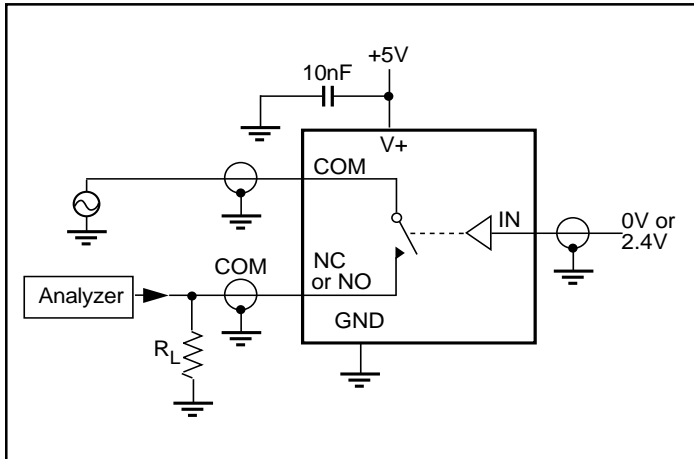

Figure 5. Off Isolation
- Off Isolation = 20log10 [ VCOM / (VNC OR VNO) ]. See Figure 5.